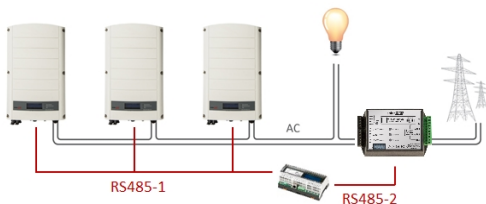

Figure 5: Multi-inverter connection with CCG and meter
- The meter is connected to one of the RS485 ports of a CCG. The CCG's second RS485 port can be used to create an RS485 bus for communication between the inverters. This option is illustrated in *Figure 5*.